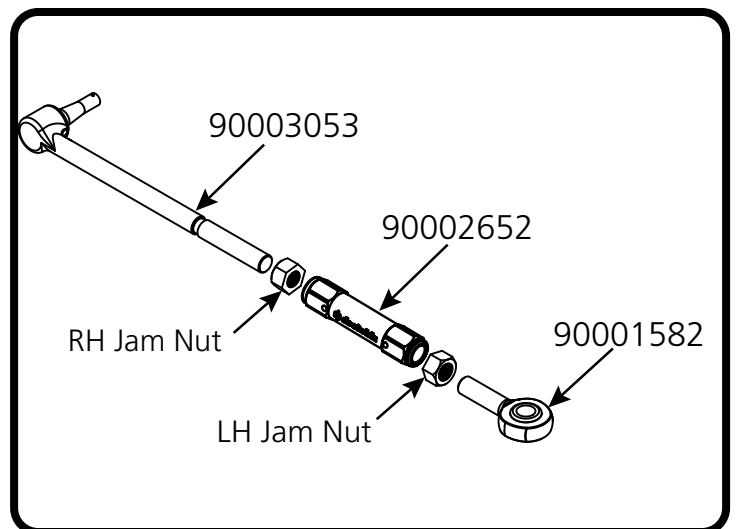

Figure 13
20. Assemble the tie rods as illustrated in Figure 13. We recommend starting with a center-to-center length of 15", with an equal amount of thread engagement at both ends.